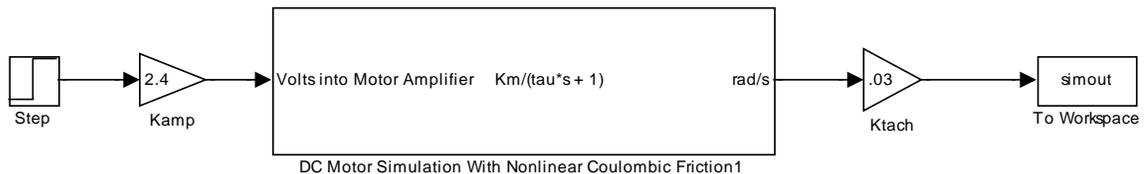

Figure 2 - Simulink Model for DC Motor Simulation
Start by simulating the motor transfer function found in the post lab questions of Lab 3. Use Figure 2 and the steps below to build a Simulink simulation of the motor.
- 12) Now connect the boxes so they match Figure 2 in your lab. To connect them use the small arrows on the edges of each block. Left click on them and drag the connection to the next block.
- 13) Double click on each box and change the values so they match Figure 2 and these items below:
The goal of this section will be to estimate the values for K_m and τ_m by analyzing the response of the motor to a step input voltage. You will be implementing the block diagram in Figure 2 with your actual motor. A step function will be input to the motor, and the signal from the tachometer will be observed. Remember that the voltage of the tachometer is proportional to the angular velocity of the motor. You will also use this step response data to estimate the coulombic friction acting on the motor.